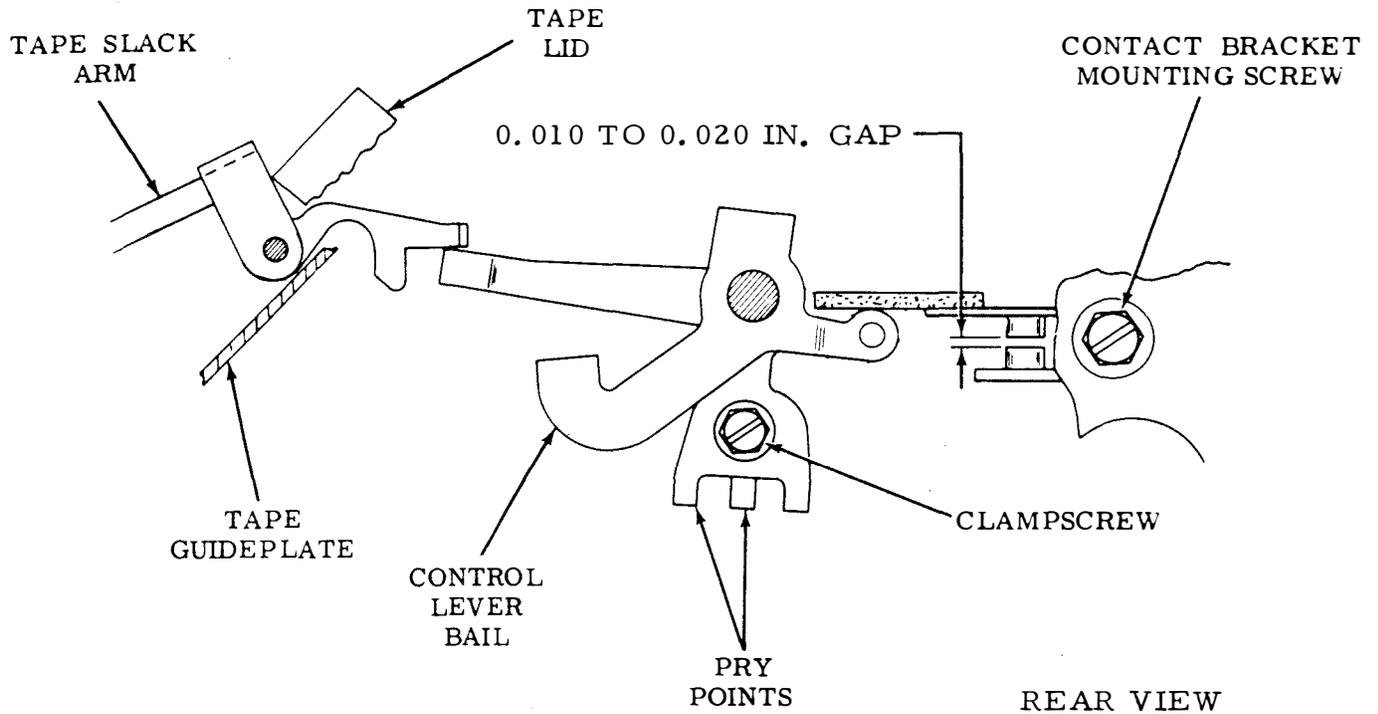

Figure 6-71. Tape Slack Contacts
(1) Refer to figure 6-71.
(2) Close tape lid.
(3) Place control lever in RUN position.
(4) Raise tape slack arm to its maximum height.
(5) Measure gap between tape slack contacts. Gap should be between 0.010 and 0.020 inch.